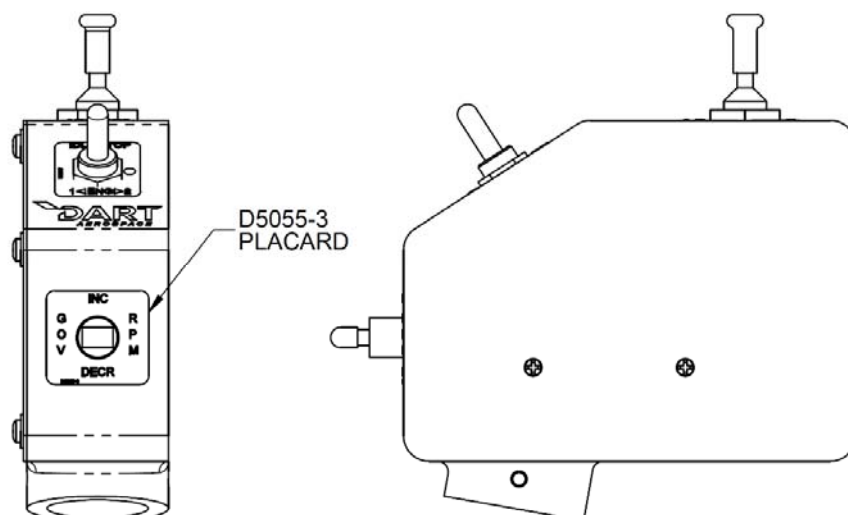
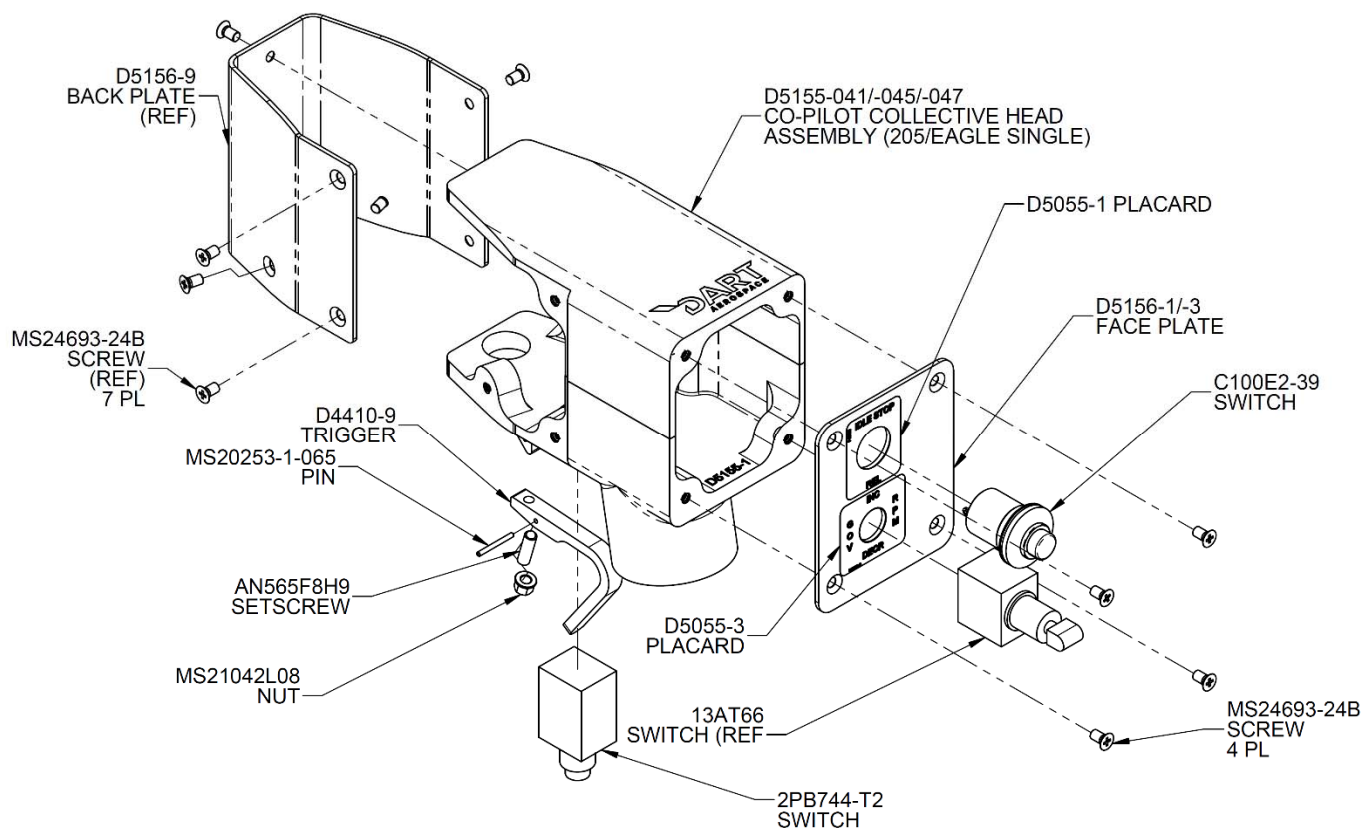
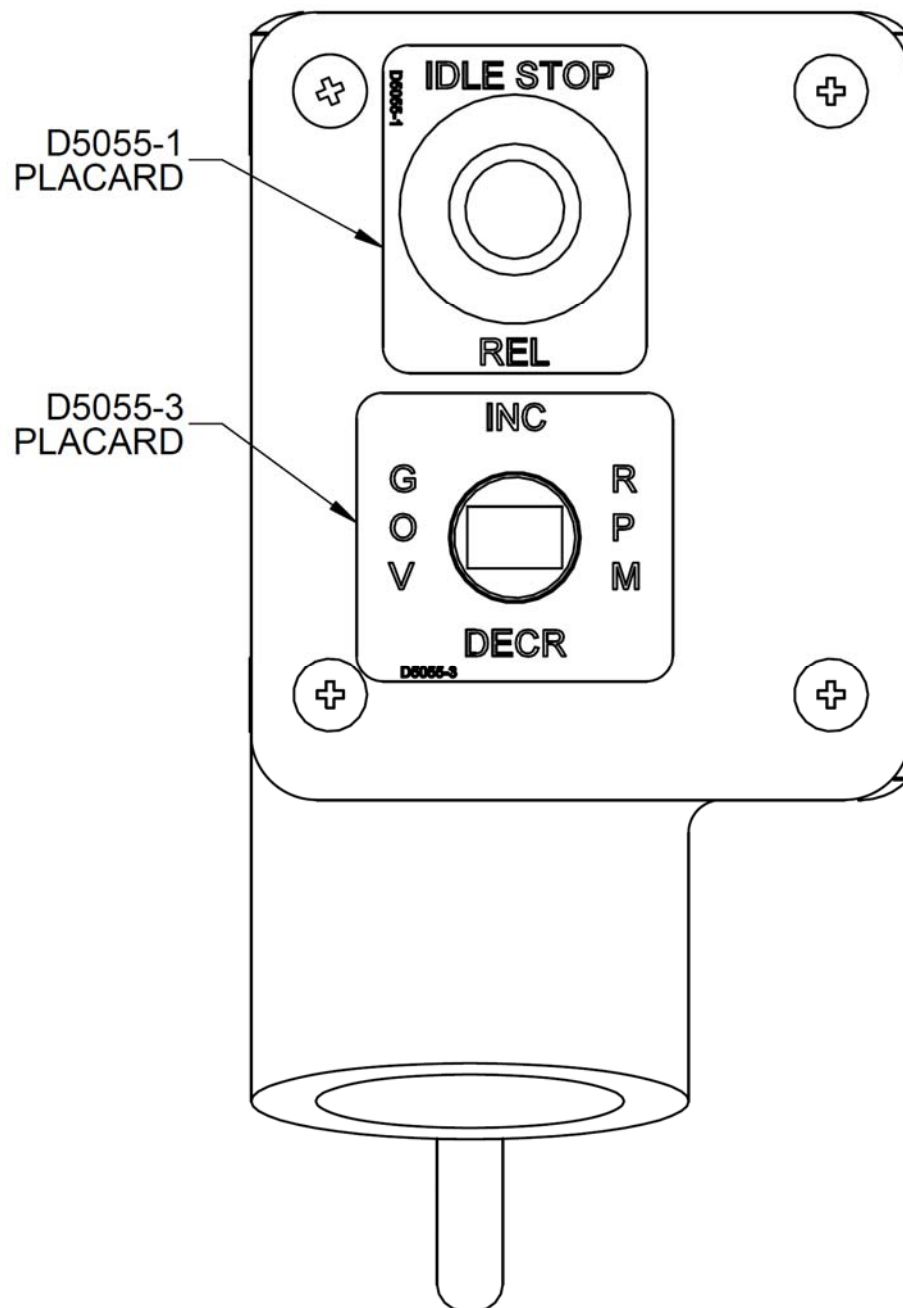

FIGURE 15: D212-803-115/-117 Co-Pilot Collective Head Front View
FIGURE 21: DXXX-803-211/-219/-221 Kit Switches Installation
FIGURE 22: DXXX-803-211/-213/-219 Co-Pilot Collective Head Front View
3.17.12 Attach Face Plate (p/n D5156-1/-3) to Co-Pilot Collective Head Assembly (p/n D5155-045) using hardware as indicated in Figure 21. See Figure 22 for front view of installed switches.
3.17.13 If applicable, reinstall the D5156-9 Back Plate per Figure 21.
3.18.4 Attach D5055-1/-3 Placard to the D5156-3 Face Plate. See Figure 22 for location.
NOTE: It is acceptable to install the D5156-1 Face Plate in place of the D5156-3 Face Plate so the operator may locate the switches per their requirements. The D5055-1/-3 Placards must be installed on the D5156-1 Face Plate with the corresponding switches per Figure 21.
3.18.5 Install engine start switch (p/n 2PB744-T2) into Co-Pilot Collective Head Assembly (p/n D5155-047) per Figure 21; BHT-205A1-MM-1 Chapter 98, Figure 15, Starter Generator and Bus Wiring Diagram; and Dart drawing D205-803-901.
3.18.6 Install Trigger (p/n D4410-9) using Pin (p/n MS20253-1-065) into Co-Pilot Collective Head Assembly (p/n D5155-047). Install Setscrew (p/n AN565F8H9) and Nut (p/n MS21042L08) into Trigger as shown in Figure 21. Ensure that the Trigger can move freely; it may be necessary to file a small amount of material off the mounting lugs on the Co-Pilot Collective Head Assembly. Tighten the Setscrew so that the Trigger sits flush against the engine start switch button (p/n 2PB744-T2). Ensure that activating the Trigger will depress the engine start switch button and that the engine start switch button can fully extend when the Trigger is released.
3.18.7 It is acceptable to remove the D5156-9 Back Plate to aid with steps 3.18.8-3.18.10 per Figure 21.
3.18.8 Remove engine governor RPM switch (p/n 13AT66) from the Switch Box Assembly (Bell p/n 205-001-124-1) and install into the Face Plate (p/n D5156-1/-3) per Figure 21; BHT-205A1-MM-1
- 3.18.9 Install idle stop switch (p/n C100E2-39) into the Face Plate (p/n D5156-1/-3) per Figure 21 and Dart drawing D205-803-901.
- 3.18.16 Attach Face Plate (p/n D5156-1/-3) to Co-Pilot Collective Head Assembly (p/n D5155-047) using hardware as indicated in Figure 21. See Figure 22 for front view of installed switches.
- 3.18.17 If applicable, reinstall the D5156-9 Back Plate per Figure 21.